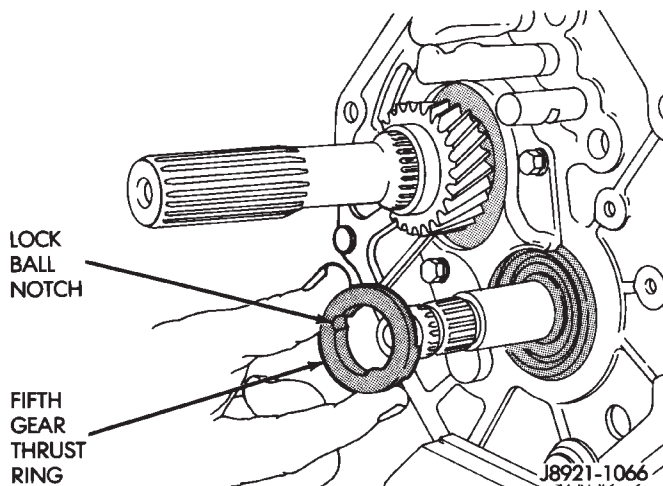

Fig. 94 Install Fifth Gear Thrust Ring
(40) Install the fifth gear thrust ring onto the countershaft and over the lock ball (Fig. 94).
(41) Install fifth gear shift fork to the countershaft fifth gear assembly.